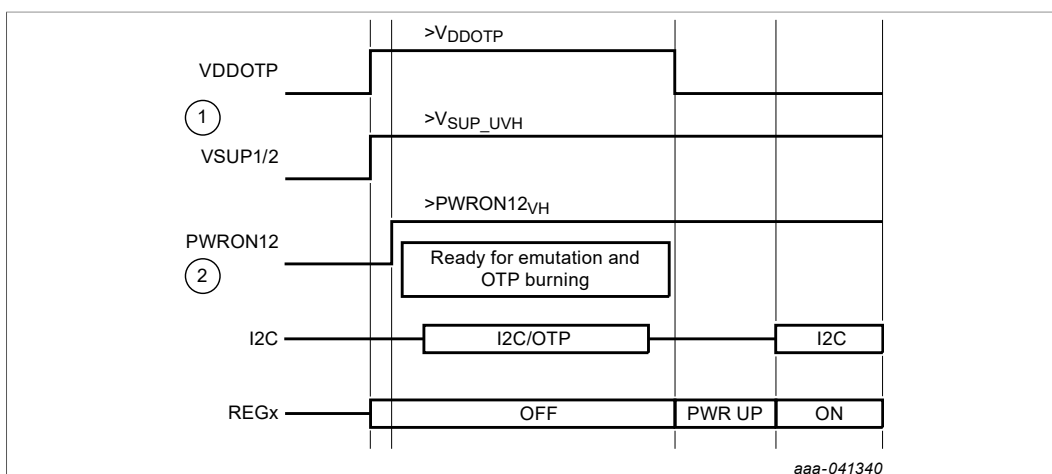

Figure 3. Debug entry startup sequence
- Figure 3 shows the hardware sequence that must be followed to enter Debug mode. The VDDOTP and VSUP1/2 pins must come up first (together or separately). PWRON1 and/or PWRON2 must come up only after the VDDOTP and VSUP1/2 pins have gone high.